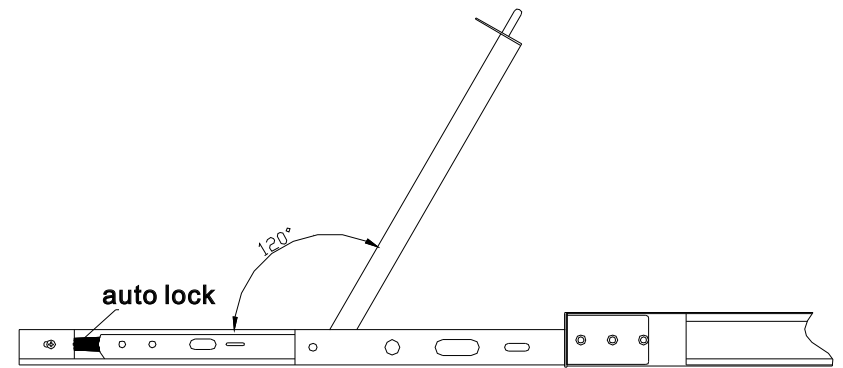

Fig.8
- \* The panel can be Open to 120° for use;(see fig.8)
- \* Release the guide rail lock (see fig.8)